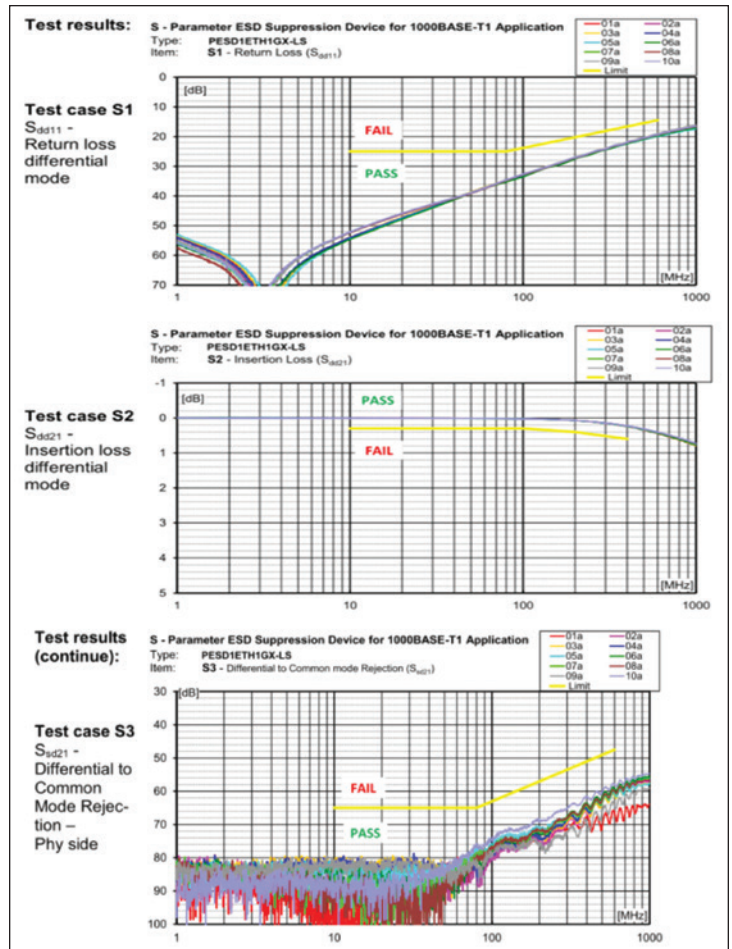

Figure 4: S-parameter results for an ESD protection device for 1000BASE-T1 including the limits in yellow
The tests for 100BASE-T1 and 1000BASE-T1 are basically the same but with different pass criteria. The first two tests clearly show the importance of signal integrity (SI) in automotive Ethernet applications. Here, the impact on SI from an ESD protection device should be tested in terms of insertion loss (IL), return loss (RL), and common mode rejection ratio (CMMR) (see Figure 4). For all three parameters, specific limits are given in the “Specification of the ESD protection for 100BASE-T1 and 1000BASE-T1.”1 The ESD discharge current is new in the automotive domain, quantifying the current flowing into the PHY during the ESD event. RF clamping simulates the noise on the UTP covering the 100 V requirement.